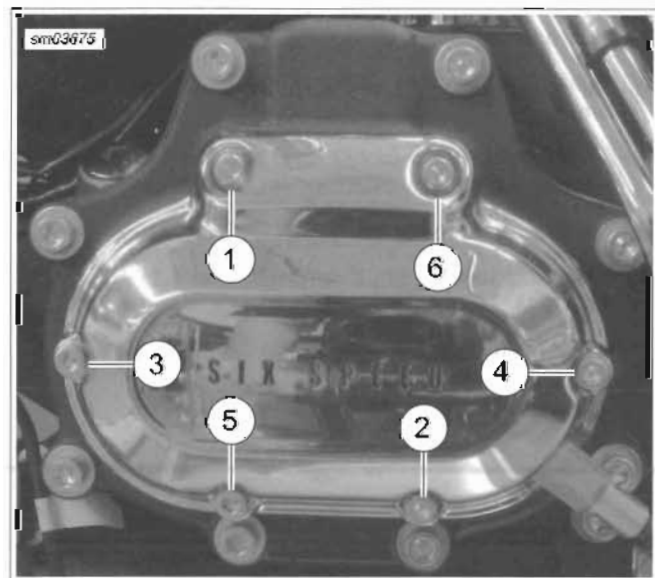

Figure 6-4. Cover Screws
4. See Figure 6-4. Remove the six screws that hold the clutch release cover in place. Remove the clutch release cover and discard the gasket.
See Figure 6-4. Clutch release cover screws in positions (1) and (6) are shorter than the others.
- See Figure 6-4. Install clutch release cover. Tighten all six screws to 132-156 in-lbs (14.9-17.6 Nm) in sequence shown.